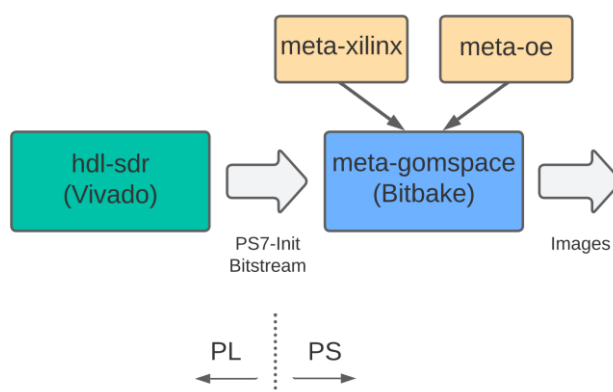

Figure 11.1: Platform Development Kit (PDK)
GomSpace provides meta information for a complete open-source stack, with U-Boot being the bootloader and Linux the high level operating system (HLOS) and is extended with also transceiver support. The PDK is split in two parts; PL development is facilitated through Xilinx Vivado Design Suite whereas Yocto Project (YP) is the tool used for customizing U-Boot, Linux board support package (BSP), Linux distribution, and associated applications. The relation between these and overall flow is depicted in the Figure 11.1.